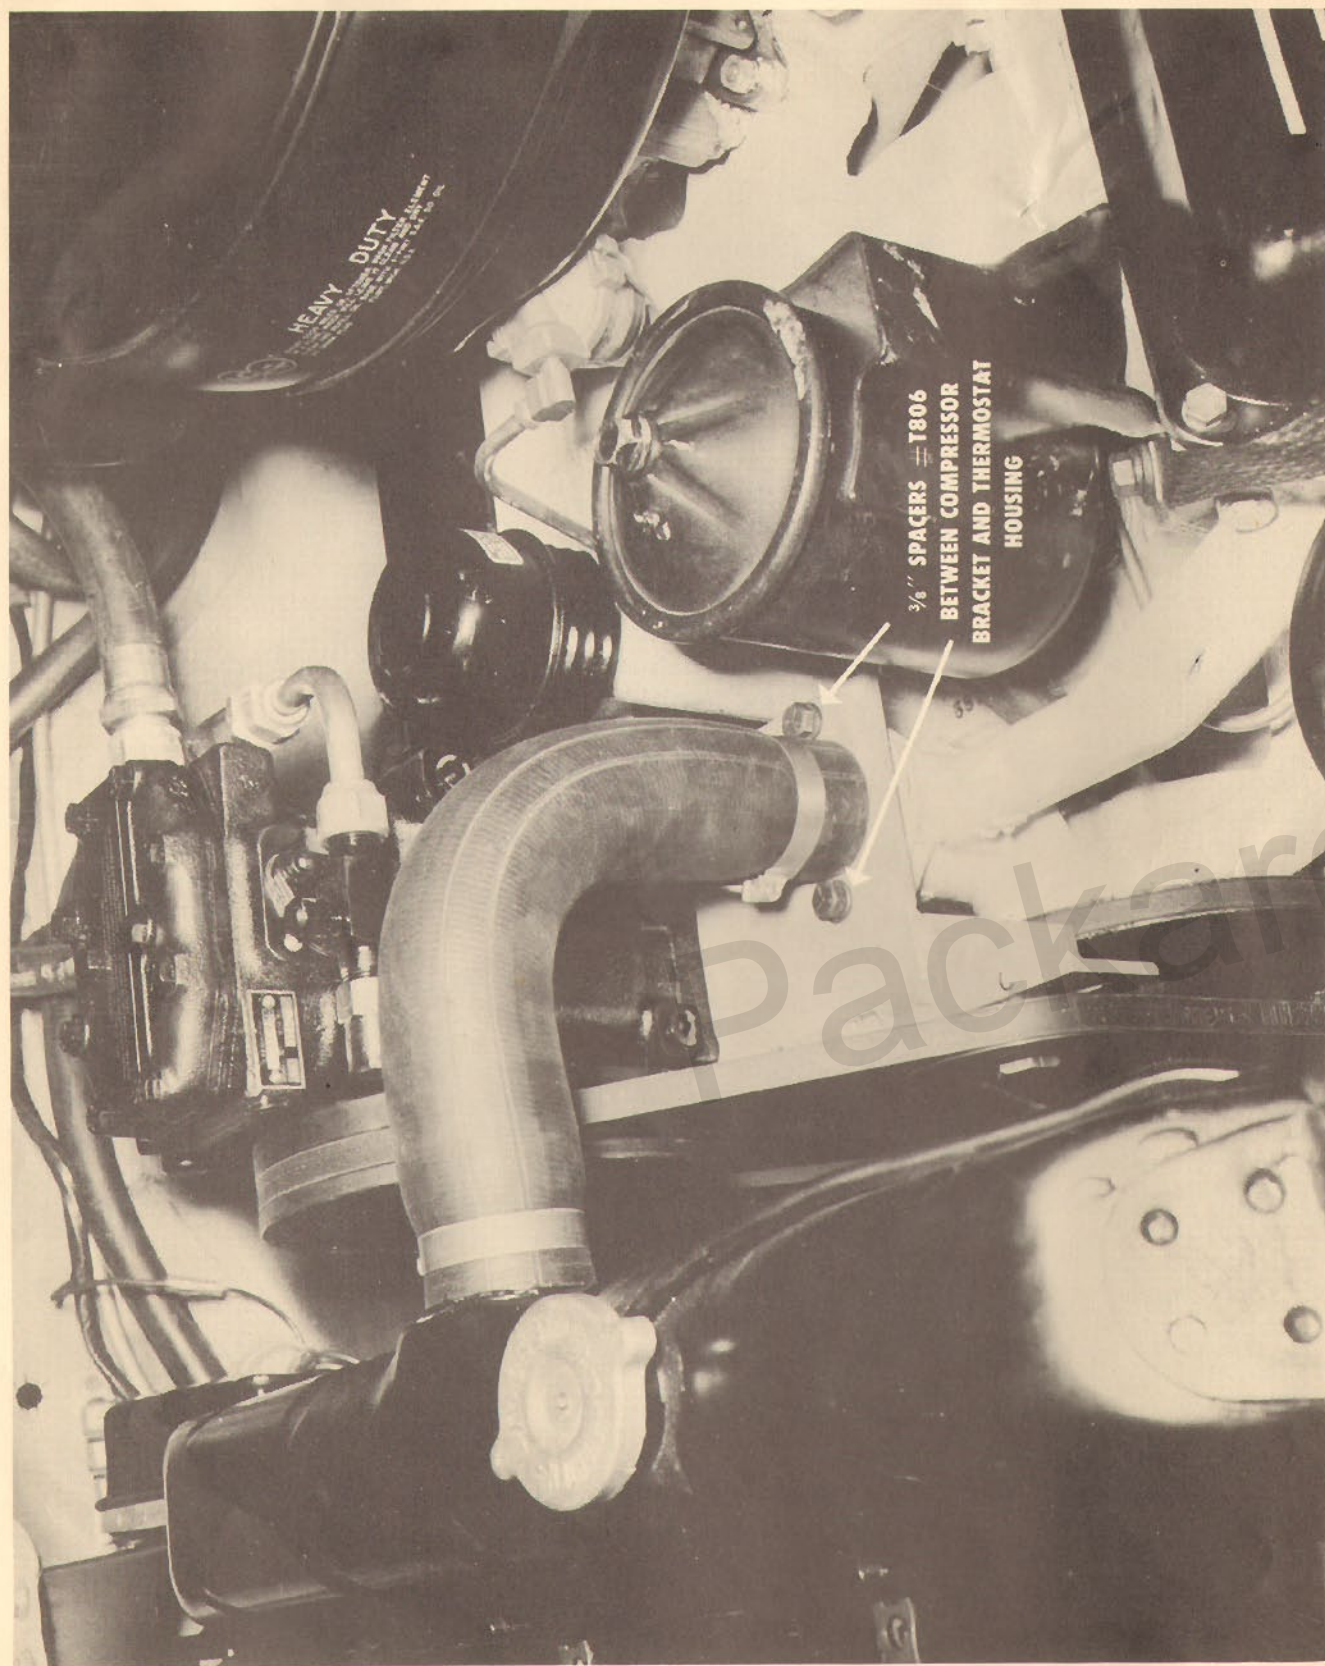

FIG. 1
2. Attach compressor to mounting bracket with four 3/8" x 3/4" cap screws and lockwashers. Do not tighten. With compressor attached, mount bracket to engine, as shown in Figs. 1 and 2, using two 3/8" spacers #T806 between the bracket and the thermostat housing. Install two 3/8" x 1-1/2" cap screws and lockwashers at this point. Do not tighten. Using two 1/2" spacers #T827 between the bracket and the lower water manifold, start two 3/8" x 1-3/4" cap screws and lockwashers at this location. If the generator adjusting arm is notched or bent slightly, it can now be attached to the bracket in its original location with one 5/16" x 1" cap screw and lockwasher.